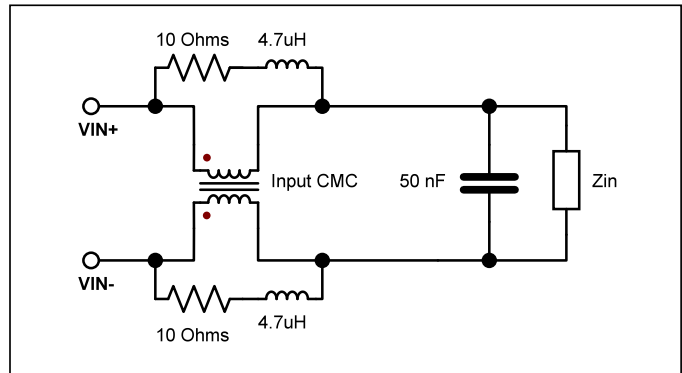

Figure 37. CMC with Calculated Series Damping Components.
3. Divide the values by two and connect in parallel to each CMC winding, as shown in Figure 37 below.